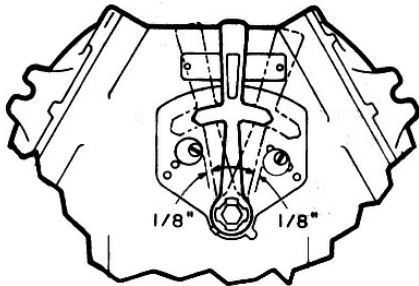

Figure 3
D. Reinstall mounting plate and circuit breaker into the enclosure so that the circuit breaker load terminals are on the bottom. Tighten the four (4) mounting plate screws to provide a good ground connection between the mounting plate and the enclosure.
F. Check the operating handle travel by readjusting the over-travel stops on the outside of the enclosure so that there is a maximum of 1/8" clearance between the stops and the operating handle, after movement in either direction (See Figure 3).